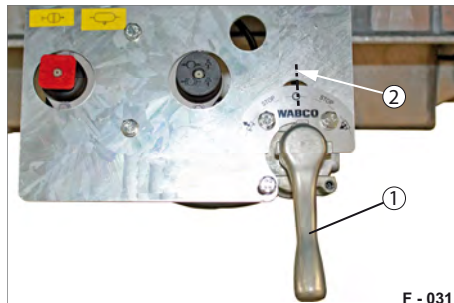

Fig. 28 Turning lever in drive position
If the turning lever (Fig. 28/1) is in drive position (Fig. 28/2), it is pulled out and cannot be turned.
- Bring the turning lever (Fig. 28/1) into drive position before starting the journey.